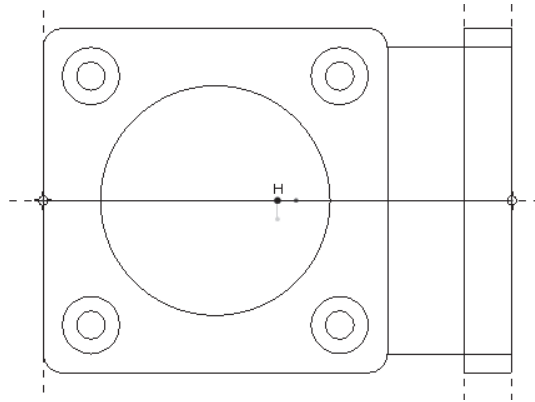

Figure 12-53 The sketch for the section line with the constraint
- e. Generate the isometric sectioned view. The section will be defined by drawing a line on the **TOP** datum plane, refer to Figures 12-53 and 12-54.
11. Choose the **Sketch > Line > Line** from the menu bar and draw the line, as shown in Figure 12-53. This line creates a section plane.